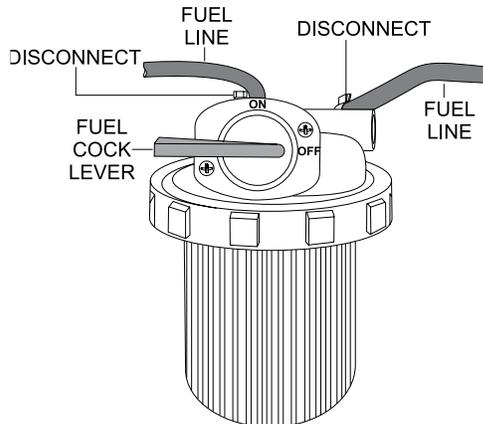

Figure 29. Fuel Cock Lever (OFF)
1. Place fuel cock lever (Figure 29) in the **OFF** (close) position.
1. Place fuel cock lever (Figure 29) in the **CLOSED** position.